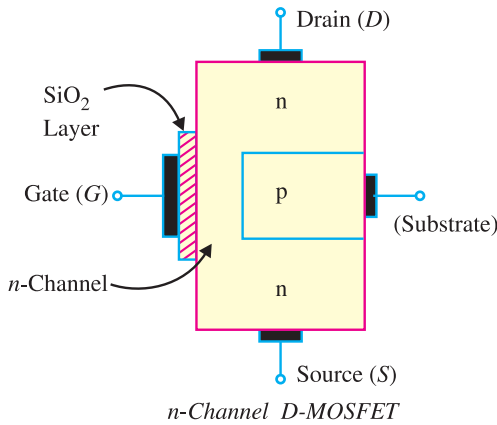

Fig. 19.43
1. D-MOSFET. Fig. 19.43 shows the constructional details of *n*-channel *D-MOSFET*. It is similar to *n*-channel *JFET* except with the following modifications/remarks :
(i) The *n*-channel *D-MOSFET* is a piece of *n*-type material with a *p*-type region (called **substrate**) on the right and an **insulated gate** on the left as shown in Fig. 19.43. The free electrons (Q it is *n*-channel) flowing from source to drain must pass through the narrow channel between the gate and the *p*-type region (*i.e.* substrate).